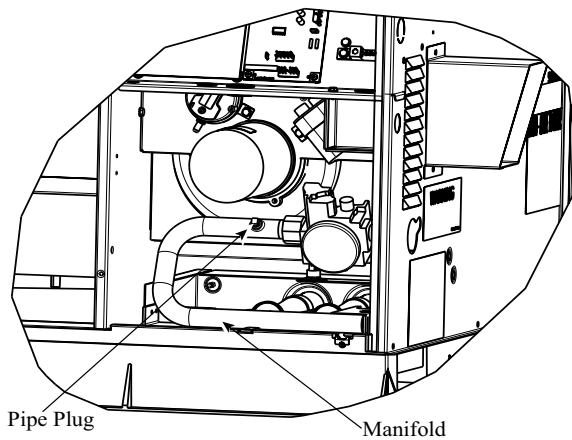

Fig. 14 – Burner Assembly
2. Remove pipe plug on manifold (See Fig. 14) and connect manometer. Turn on gas supply to unit.
6. Turn off gas supply to unit. Remove manometer from pressure tap and replace pipe plug on manifold (see Fig. 14). Turn on gas and check for leaks